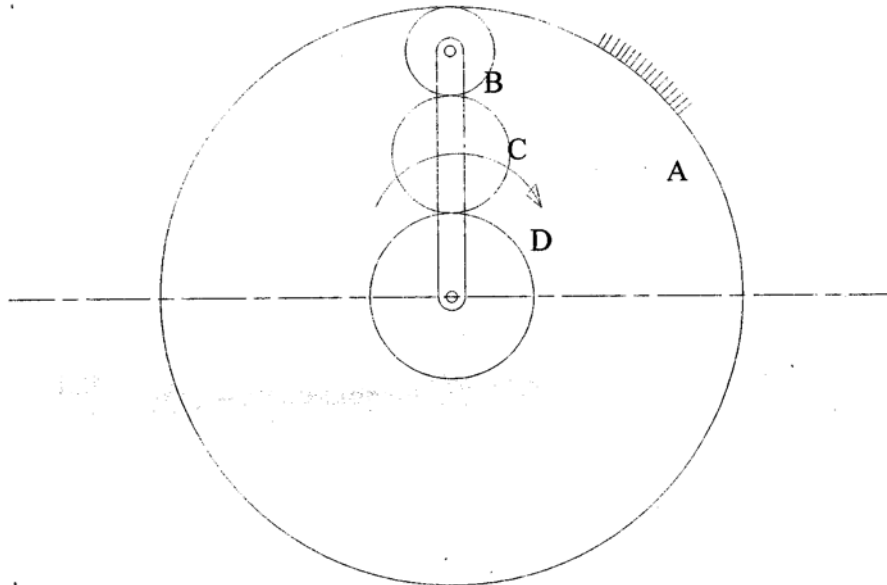

Fig.2
4. a) An epicyclic train (Fig. 2) is composed of a fixed annular wheel A having 150 teeth. Meshing with A is a wheel B, which drives wheel D through an idle wheel C, D being concentric with A. Wheels B and C are carried on an arm which revolves clockwise at 100 rpm about the axis of A and D. If the wheels B and D have 25 and 40 teeth respectively, find the number of teeth on C and speed and sense of rotation of C.